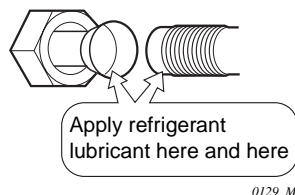

Fig. 8-4
- (1) Apply a sealing cap or water-proof tape to prevent dust or water from entering the tubes before they are used.
- (2) Apply refrigerant lubricant to the matching surfaces of the flare and union before connecting them together. This helps to reduce gas leaks. (Fig. 8-4)